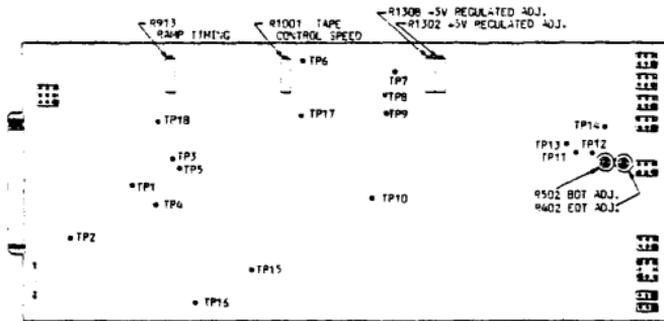

FIGURE 2
The +5V and -5V regulators are located on the Tape Control A Board, see Figure 2 below.
- Connect the scope probes to TP7 (ground) and TP6 (on the Tape Control A Board, refer to Figure 2).
- If the wave form does not meet the above value adjust R1001 on the Tape Control A Board until it is corrected. Refer to Figure 2.